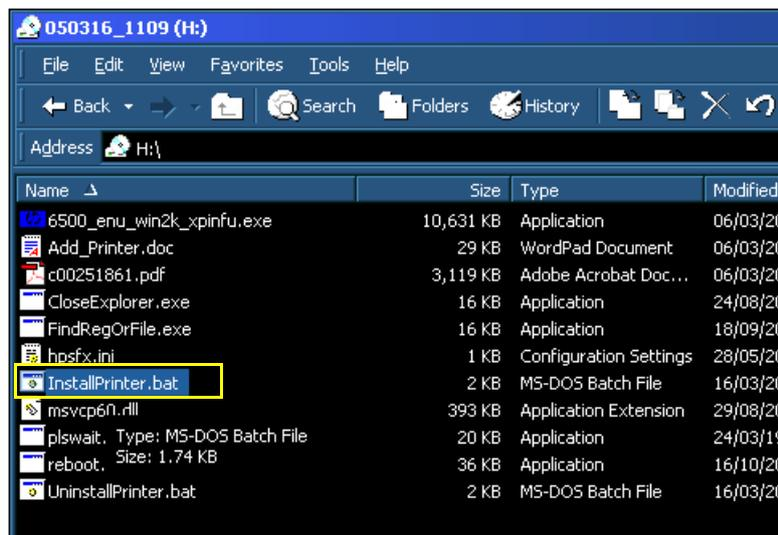

Figure 8-136 Install Printer
- 8.) Browse the CD (Drive H:) and double-click on the *InstallPrinter.bat* file (Figure 8-136)